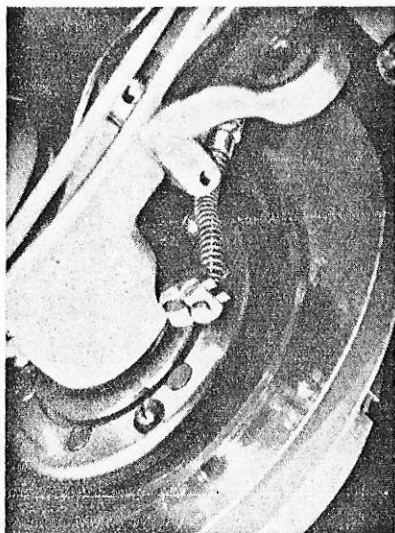
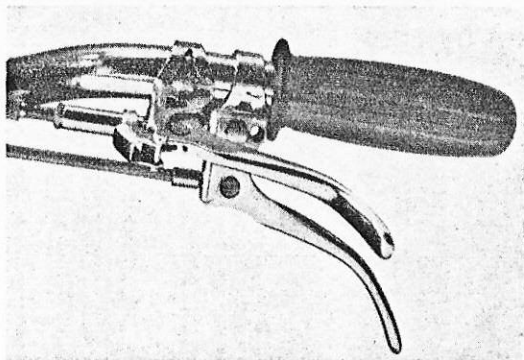

FIG. 1. Release ring clamp shown in position with clutch cable.
FIG. 2. Clutch lever locking plate and adjuster.
4. Screw the release ring out as far as it will go i.e. until it is about to pull the release plate and pins back. Position the release clamp so that the cable anchor plate is facing forward and in the horizontal position (See fig. 1). Tighten the $\frac{3}{16}$ " bolt until the clamp ring is firmly gripping the release ring and then lock with the locknut underneath the cable anchor plate. The face of the clamp ring assembly should be flush with the inner face of the release ring. (Care should be taken to ensure that it fits squarely and is flush with the face of the release ring over the whole diameter.)
5. Remove the two lower clamp bolts from the engine mounting bracket, supporting the engine while the bolts are out. Fit the clutch cable stop (4020063) with the offset towards the clutch and facing forward (See fig. 1). Replace the mounting bracket bolts and spring washers (the plain washers are not now required) and tighten evenly.
The clutch return spring locates between the lower cable stop (one cable stop fits above the cable stop plate and one below) and the cable anchor plate of the clamp assembly (See Fig. 1). The cable runs up the bottom diagonal tube and through the petrol tank mounting bracket. Fit the nipple into the clutch lever (See Fig. 2).
10. Remove the right hand brake lever and refit just outboard of the clutch lever and facing downwards, then couple up the rear brake cable (See Fig. 2). Alter the position of the lever fulcrum bolt to the inner position, if not already there.